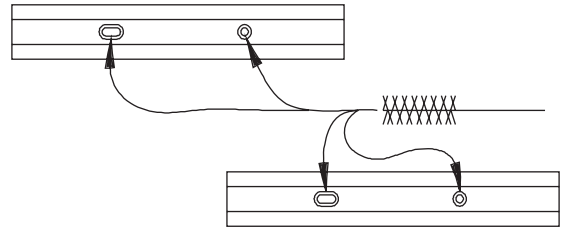

Figure 7-8 Clean beater shaft pin holes.
- e. The beater shafts and the scraper blade pin holes as shown in figure 7-8.